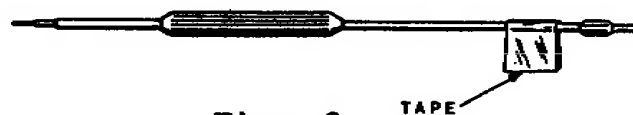

Figure 3
- () Place a piece of tape on the long end of the alignment tool, as shown in Figure 3. This
- () Place a piece of tape on the long end of the alignment tool, as shown in Figure 3. Use the short end of the tool for the following adjustments. The tape will indicate how far each slug is turned.